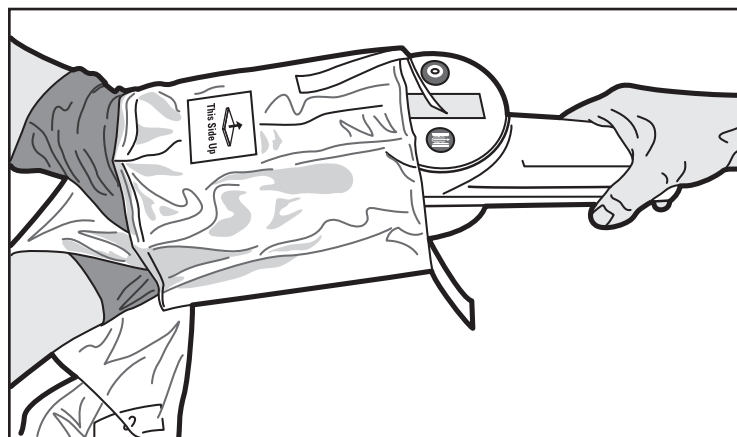

Figure 4. Inserting the MDU5 PLUS Motordrive Unit
5. The non-sterile operator then places the MDU5 PLUS Motordrive Unit into the opening, positioning the MDU5 PLUS Motordrive Unit so that the top of the unit is aligned with the "This Side Up" sticker on the bag (Figure 4).